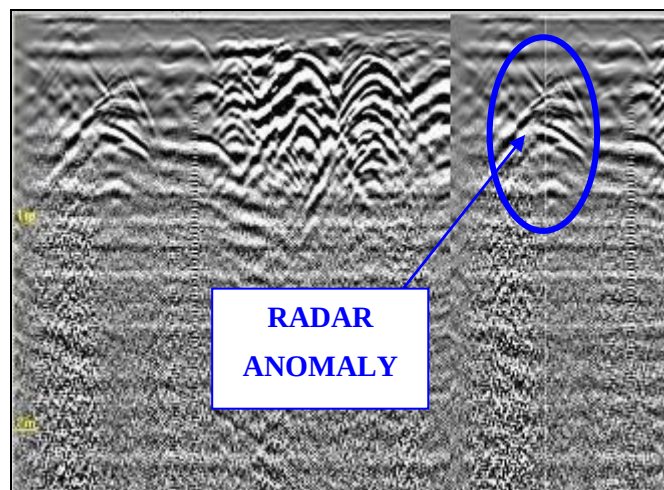

Fig. 5.15 – Identifying a target
- If you note the appearance of a hyperbola on the screen during acquisition (generated by a buried pipe or cable), go back, moving the trolley in the opposite direction to the acquisition direction. This temporarily suspends acquisition and produces a vertical line on the data screen (see Fig. 5.15).